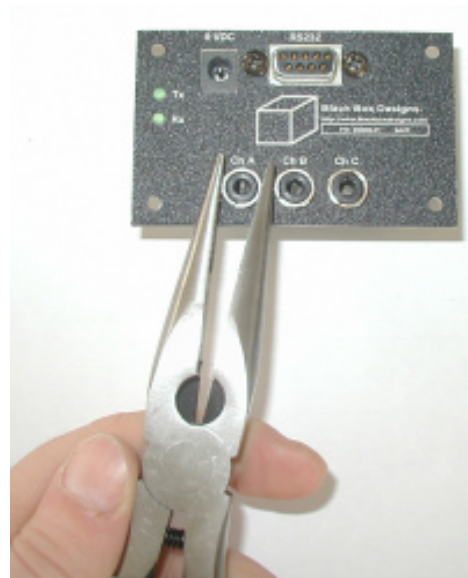

Figure 3: Remove the face plate
- Remove the face plate from the SAVR by removing two screws from the RS232 connector (#2 screw driver) and three retaining rings around the data ports Ch A, Ch B and Ch C using a pliers (**figure 3**).